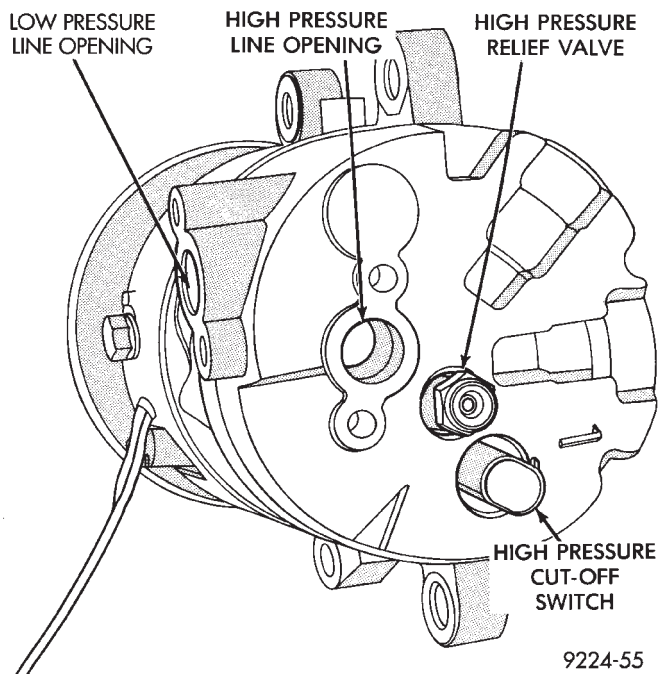

Fig. 19 High Pressure Relief Valve Removal
- (1) Discharge the refrigerant system.
- (2) Rotate the high pressure relief valve counter-clockwise and separate relief valve from the vehicle (Fig. 19).